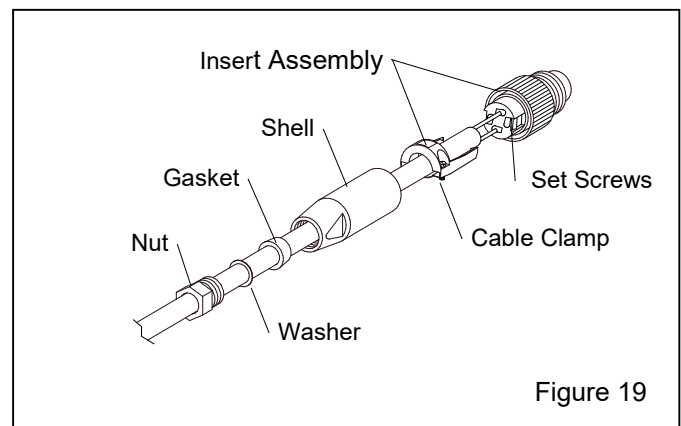

Figure 19
6.6.4.3 Remove the compression nut, thrust washer and gasket from the connector shell per Figure 19.